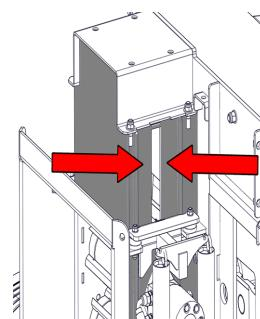

Figure 32 - Greasing the Roller box Slides
5. Apply thin grease, with a brush, directly to the slide surfaces, including the inner cheeks of the slider (Figure 32).